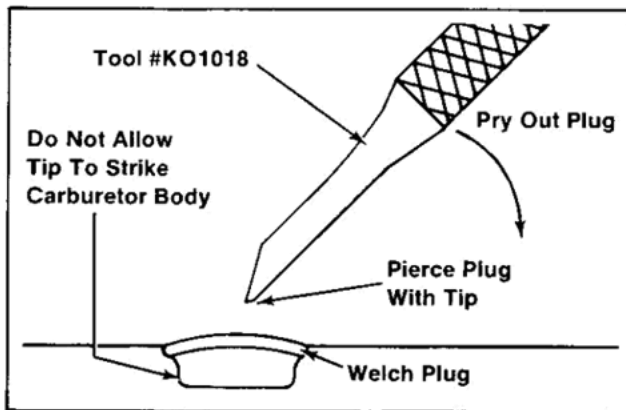

Figure 6-10. Removing Welch Plugs.
5. In order to clean the "off-idle" ports and the bowl vent channel thoroughly, the welch plugs covering these areas must be removed. Use tool No. KO1018 and the following procedure to remove the welch plugs. Refer to Figure 6-10.